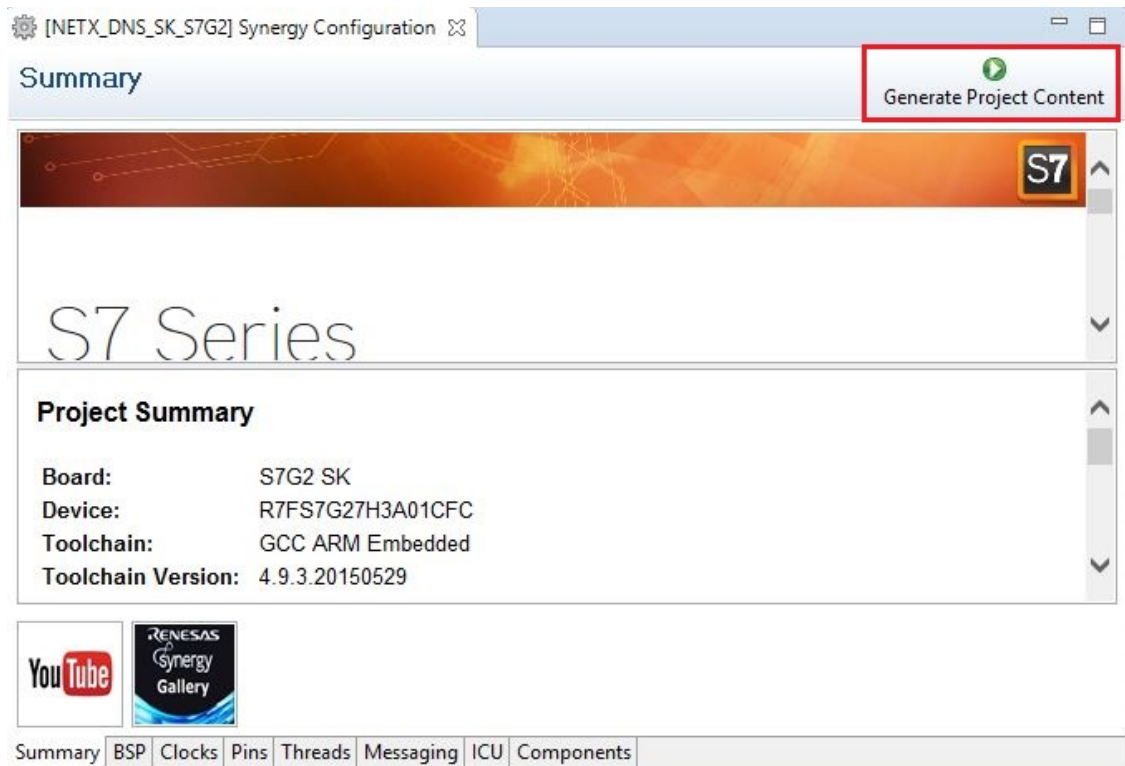

Figure 2.13 Generate Project Content button
3. In the Synergy Configuration window (Figure 2.13), click the **Generate Project Content** button.